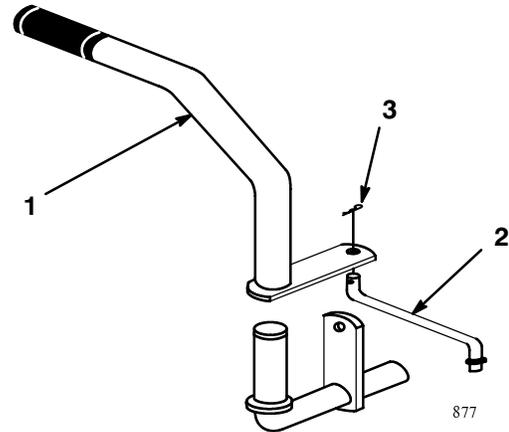

Figure 10
1. Align the rod with the hole in the handle bracket and slide the handle into position (Fig. 10). Secure the rod to the handle bracket with a hairpin cotter.